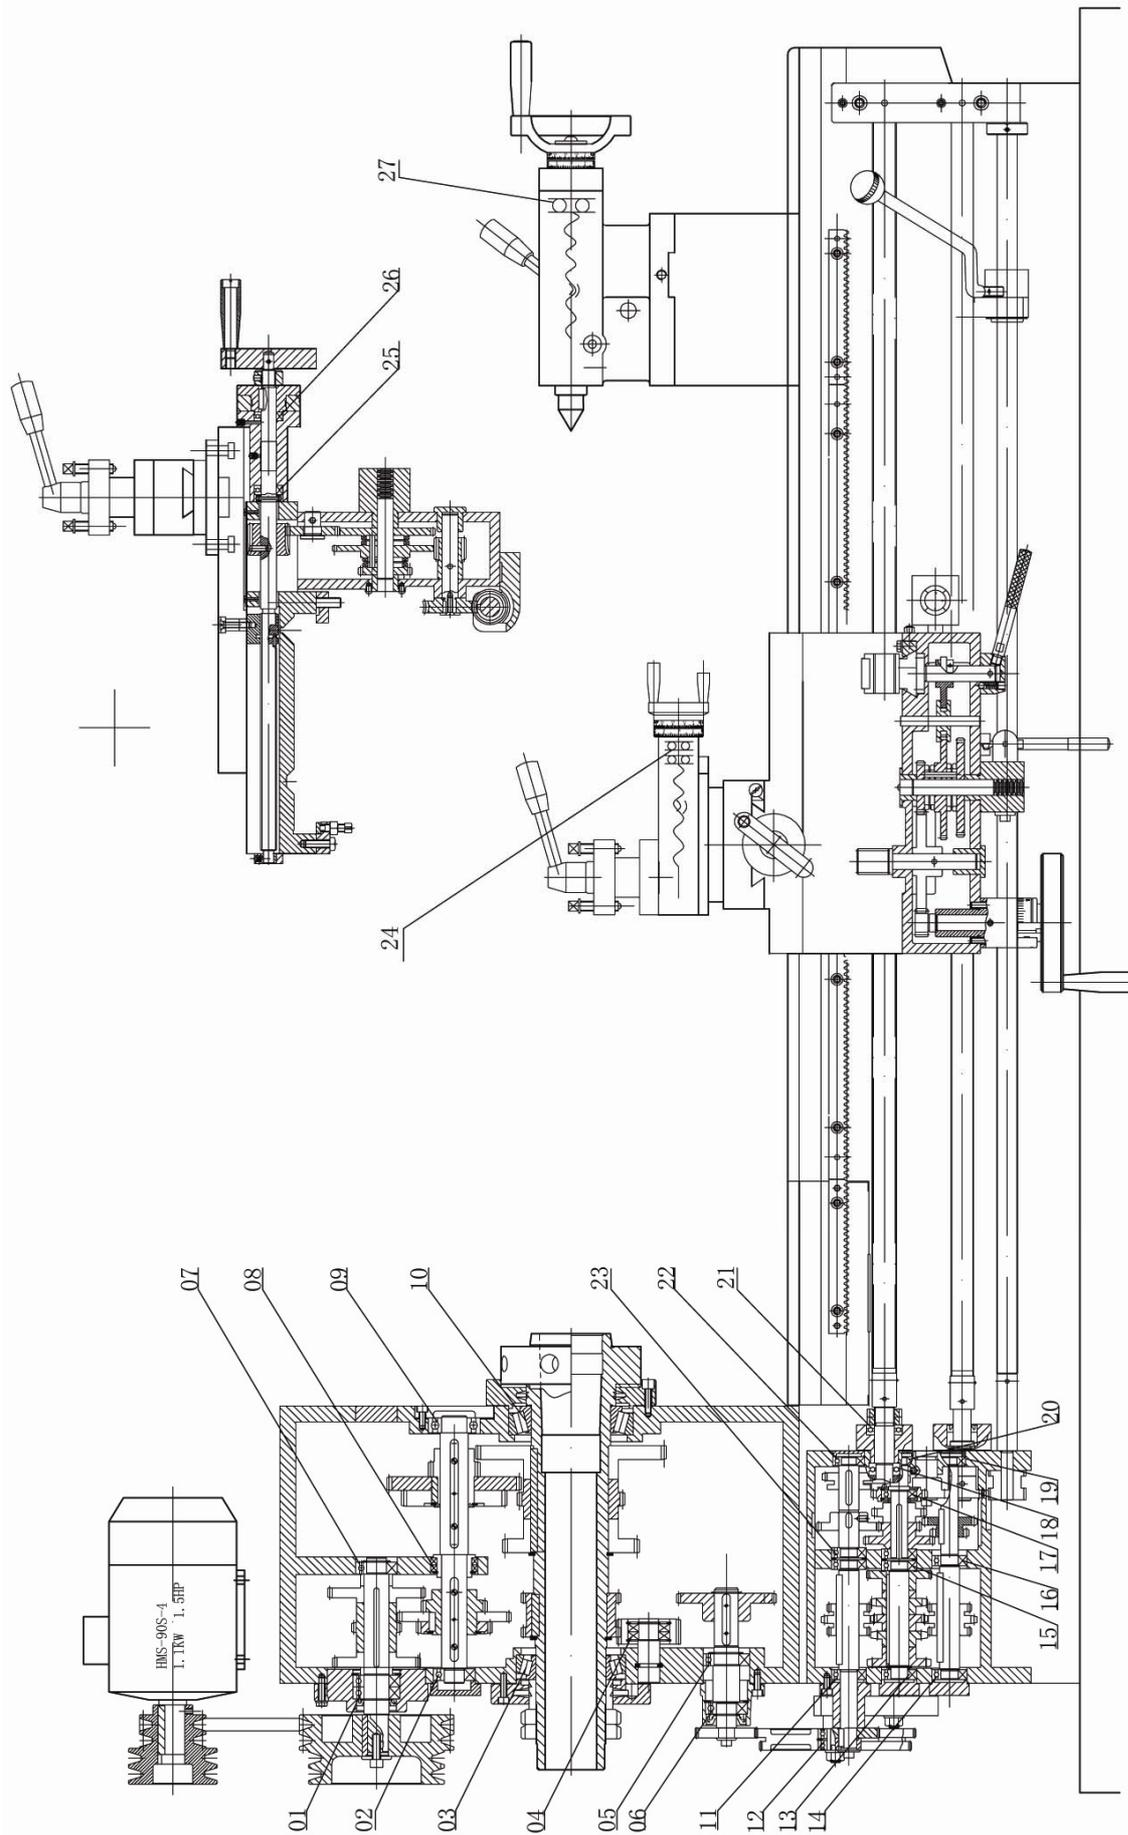

Fig5 Bearing distribution
**BEARING DISTRIBUTION AND LIST - -Fig5. Table 2**
BEARING LIST (SEE FIG 5)